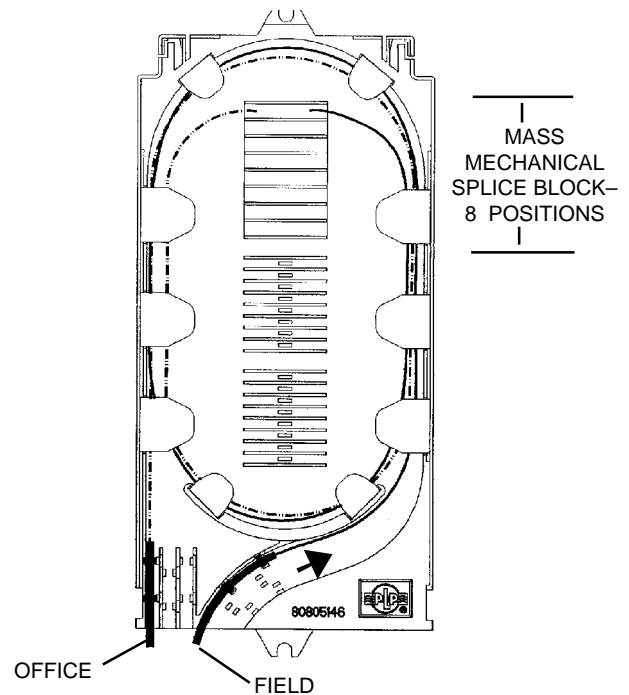

FIGURE 35 - ROUTING FIBERS IN THE MASS FIBER SPLICE TRAY FOR MASS MECHANICAL
13.06 When routing the fiber in the **MASS FIBER SPLICE TRAY for MASS MECHANICAL**, route fibers 1-1/2 times around the splice tray and lay into the top of the splice block. (Figure 35)